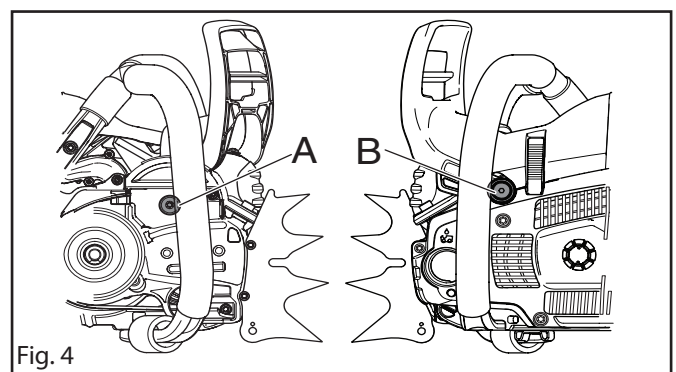

Fig. 4
9. Loosen the hand guard on the clutch side (A). See figure 4. Note the sleeve in the hand guard socket.
11. If the hand guard is to be replaced, remove the hand guard on both sides of the chainsaw, two screws (A-B). See figure 4. Note the sleeves in the hand guard sockets.